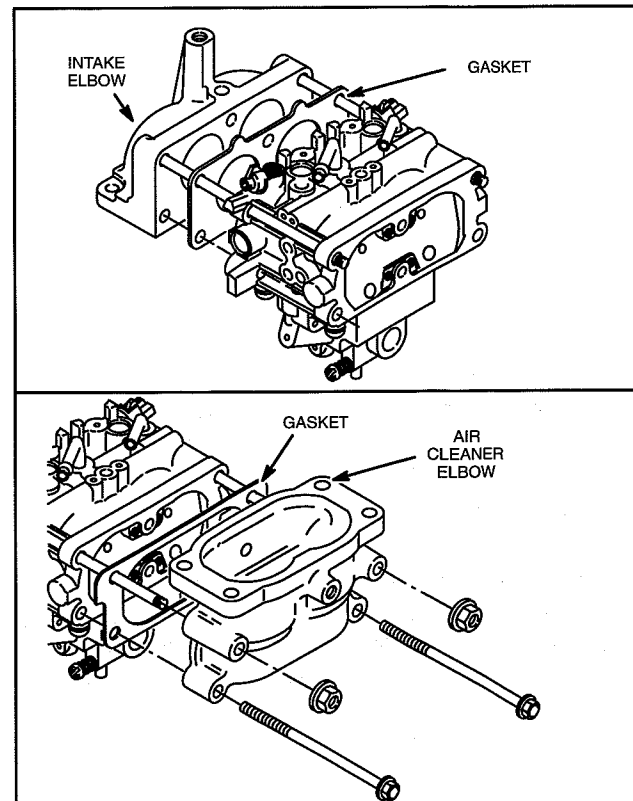

Fig. 123 – Install Intake And Air Cleaner Elbow
2. Install air cleaner elbow gasket with adhesive side toward air cleaner elbow and arrow up, Fig. 123.